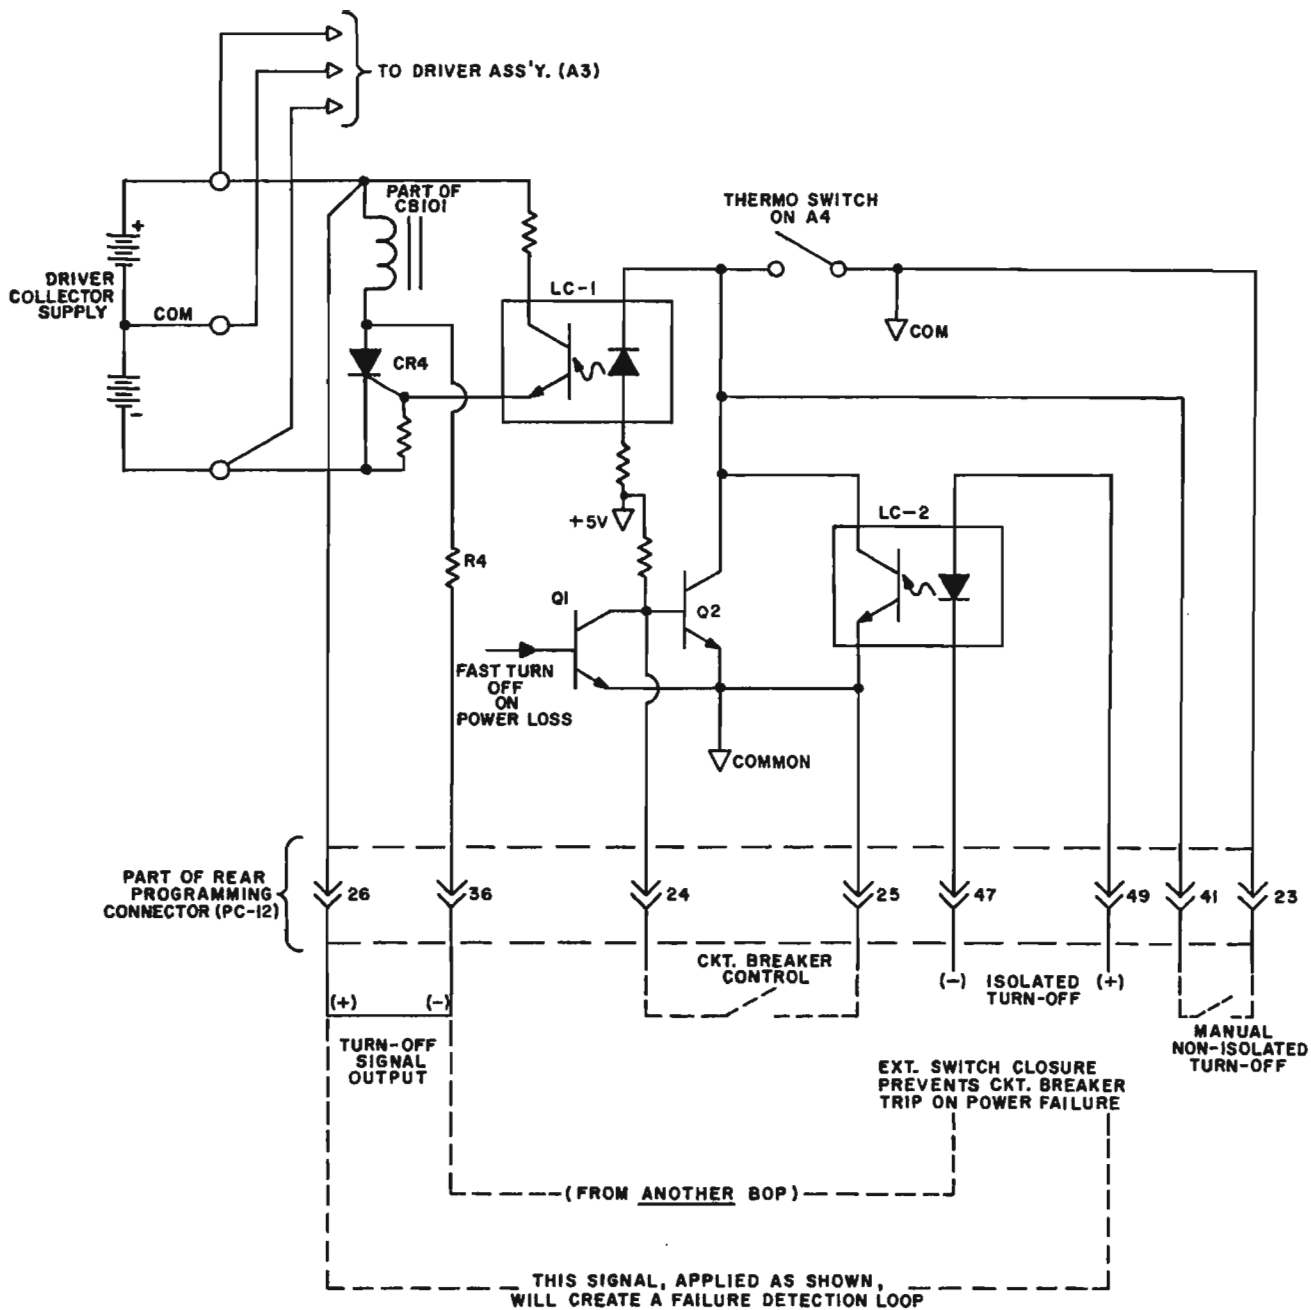

FIG. 3-28 CIRCUIT BREAKER CONTROL CIRCUIT, SIMPLIFIED DIAGRAM.
3-83 **THE CIRCUIT BREAKER CONTROL CIRCUIT (REFER TO FIG. 3-28).** The BOP is protected by the dual-coil CIRCUIT BREAKER/ON-OFF SWITCH (CB101). The current sensing coil of CB101 is connected in series with the primary winding of T201, thus detecting overcurrents reflected into the primary circuit and subsequently tripping the circuit breaker. The voltage sensing coil of CB101 is connected in series with an SCR (CR4) across the DRIVER COLLECTOR SUPPLY. If the SCR is triggered "on", the voltage sensing coil is energized and trips the circuit breaker. The SCR (CR4) can be triggered in several ways as described in paragraphs 3-83A thru 3-83D.
- D) A manual, non-isolated turn-off is provided which, when implemented with an external switch contact as shown in FIG. 3-28, will energize the diode in the first opto coupler (LC-1), thus providing the SCR turn-on.